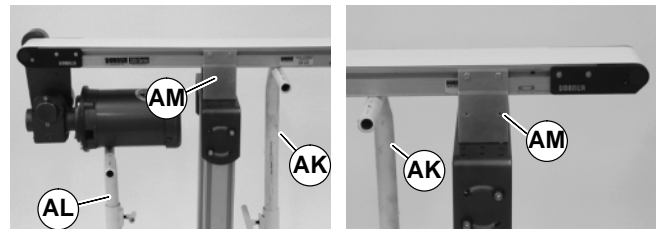

Figure 19
1. Place temporary support stands (AK of Figure 19) at both ends of the conveyor. Place an additional support stand under the drive motor (AL), if equipped. See **WARNING**.
2. Remove mounting brackets (AM of Figure 19) from one side of conveyor. (Reverse steps 3 & 4 of “Mounting Brackets” section on page 6.) If equipped with heavy load drive package, remove brackets from side opposite drive cover (AN of Figure 20).
- Ensure temporary support stands (AK of Figure 19) are placed at both ends of the conveyor. Place an additional support stand under the drive motor (AL), if equipped. See **WARNING**.